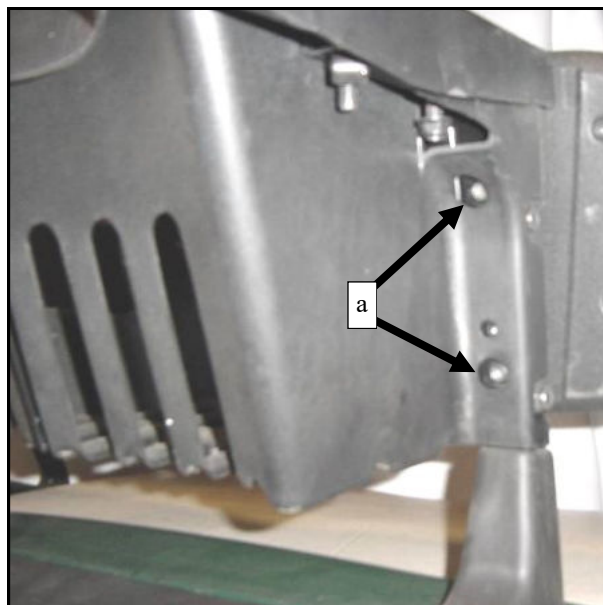

Fig. 11.3 (view taken from rear of passenger's side)
11.3 If further adjustment of the door is required, loosen the two seat bolts marked "a" in fig. 11.3. Slide the rear of the side frame assembly in or out and retest the door seal. Adjusting this area can sometimes improve the seal in the back of the door.